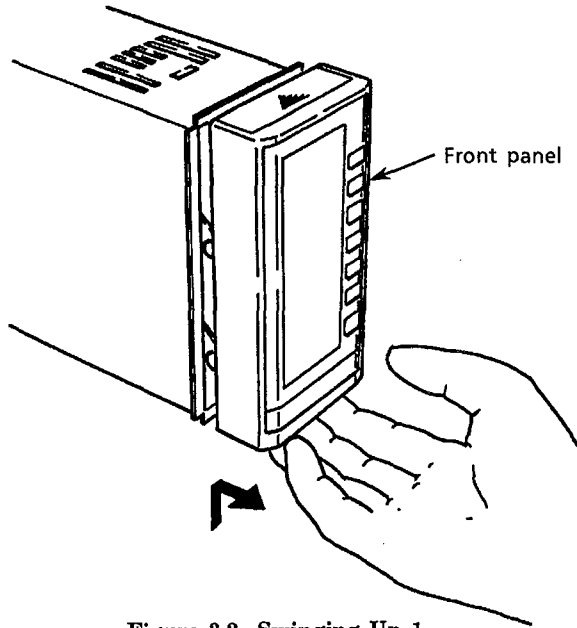

Figure 3.2 Swinging Up 1
- ① Push up the bottom center of the front panel gently (the lock is released when pushed up), and pull the front panel to the front until you feel resistance (see Figure 3.2). Then, stop there.